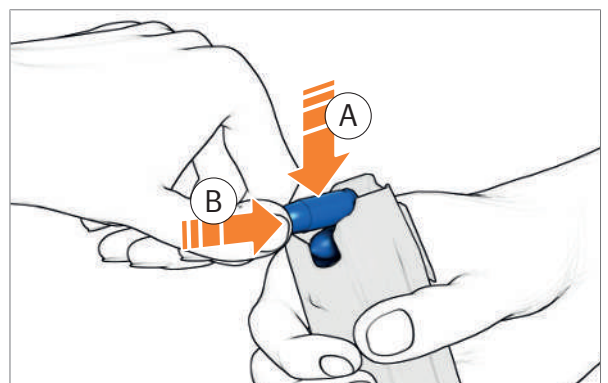

Fig. 49: Fill the magazine
2. Push cartridge under the magazine lips (Fig. 49).
3. Push cartridge to the rear as far as it will go (Fig. 49).